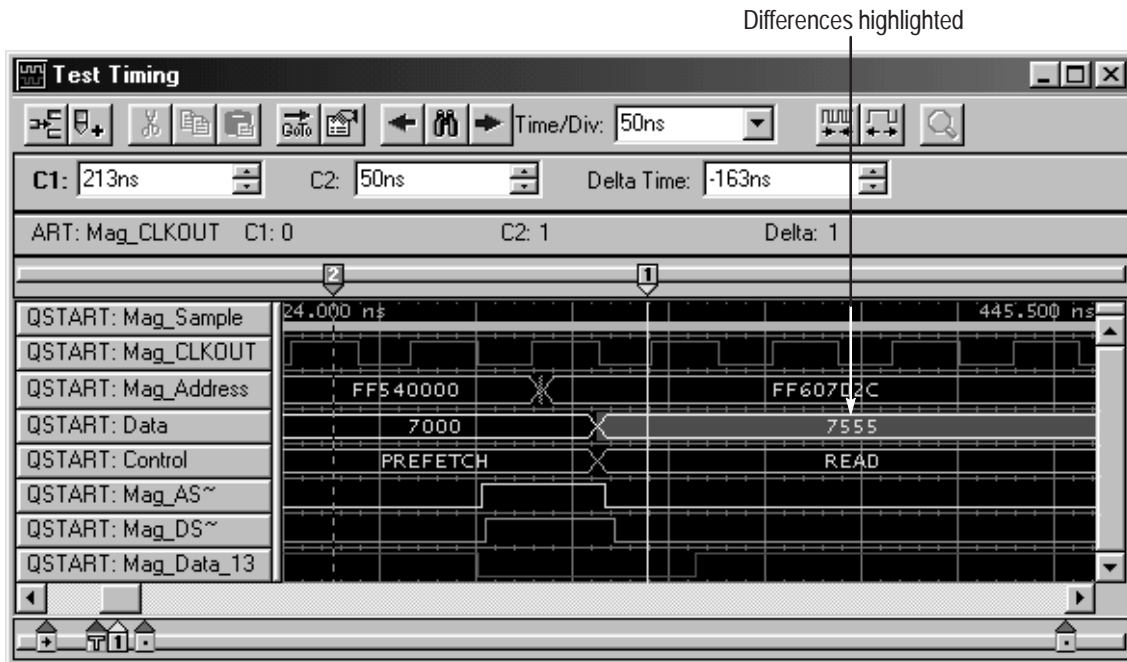

Figure 4-30: Test Timing Waveform window
6. Open the Test Timing Waveform window (Figure 4-30).